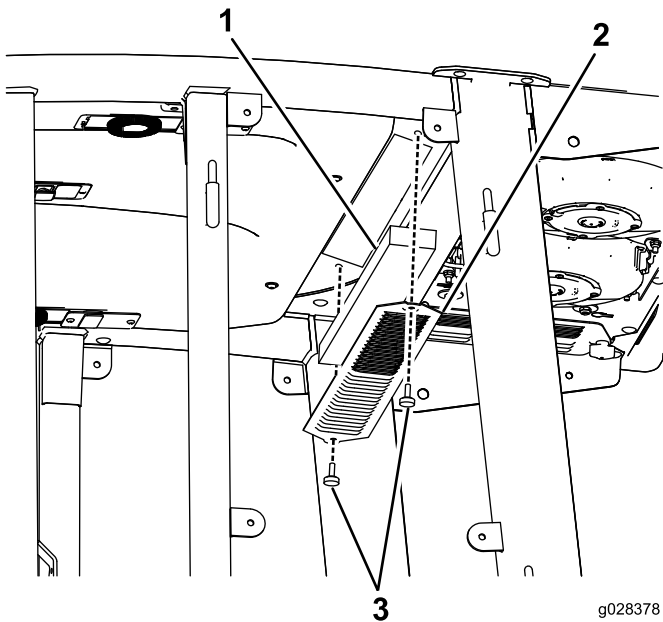
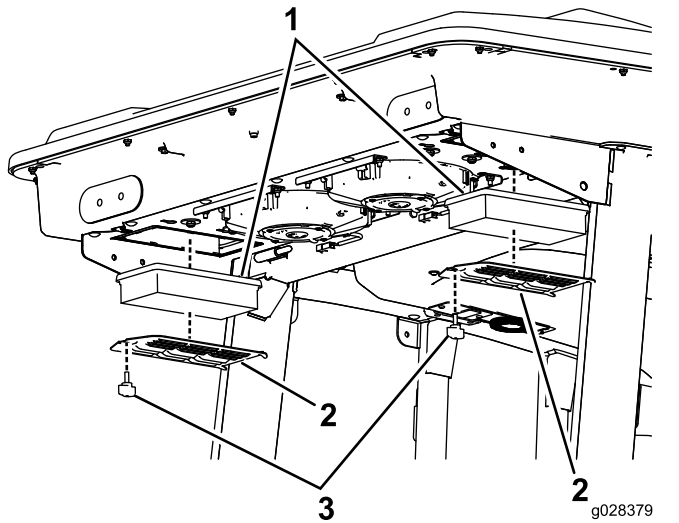
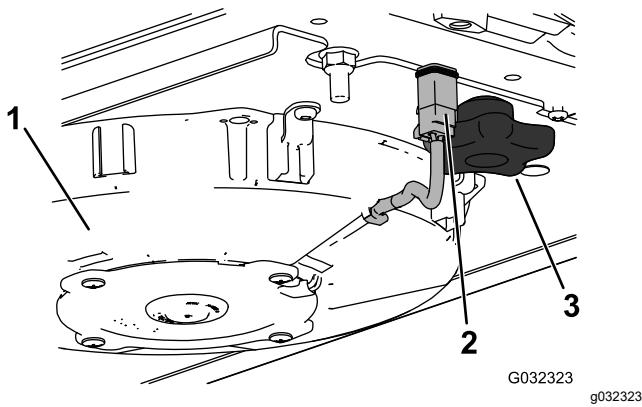
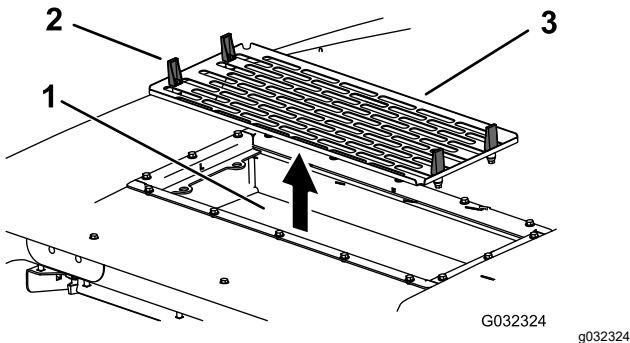

Figure 148
Figure 149
Figure 151
Figure 152
1. Remove the screws and grates from both the in-cab and rear cab air filters (Figure 148 and Figure 149).
4. Remove the air filters (see Figure 149).
6. Install the air filters, screen, and fan assembly (Figure 149, Figure 151, and Figure 152).
7. Connect the wire for each fan (Figure 151).